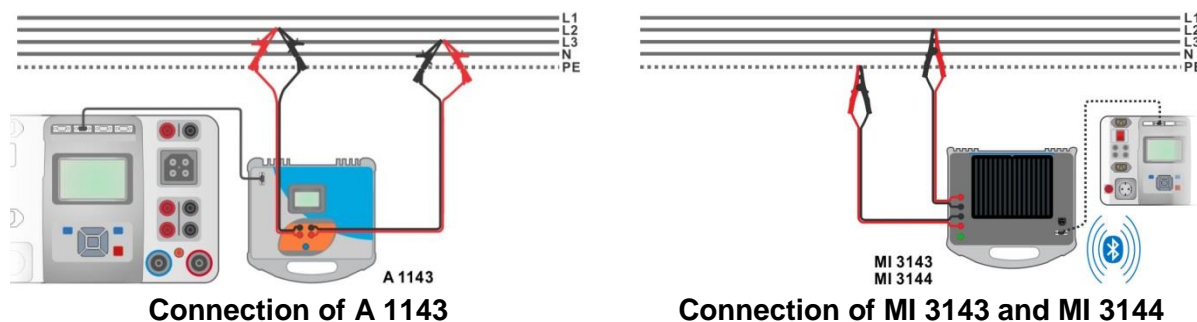

Figure 6.69: High precision loop impedance measurement
- Connect test leads to the object under test, see **Figure 6.69** and **Figure 6.70**.